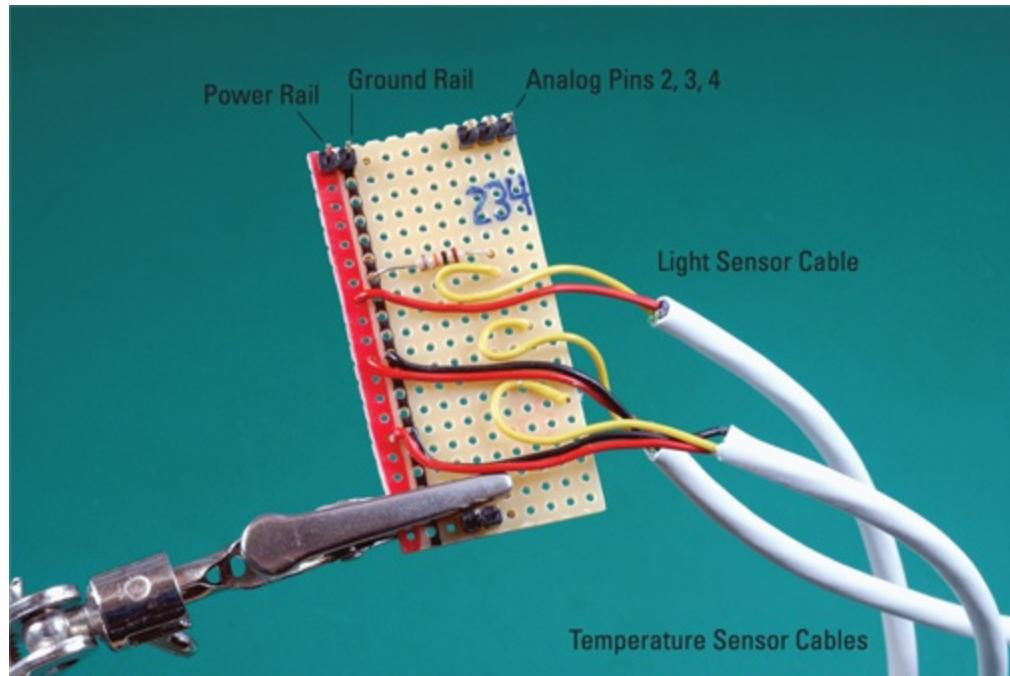

Figure 12-14: Soldering the sensor cables to your sensor shield.
8. Now connect your light sensor to the stripboard. Strip off about 5mm ($\frac{1}{4}$ ") of insulation from your sensor cable and feed one of its two wires into the leftmost column of holes, which is your power rail. Feed the other wire into the same column as the right side of your resistor, which is connected to the pin that goes into the analog 2 input on your Arduino. It should look like the top cable in Figure 12-14.
10. Connect your temperature sensor cables below your light sensor cable, as shown in Figure 12-14.
12. Solder the signal wires to the columns for analog Pins 3 and 4, respectively. Check Figure 12-14 to make sure that you've soldered your connections correctly.